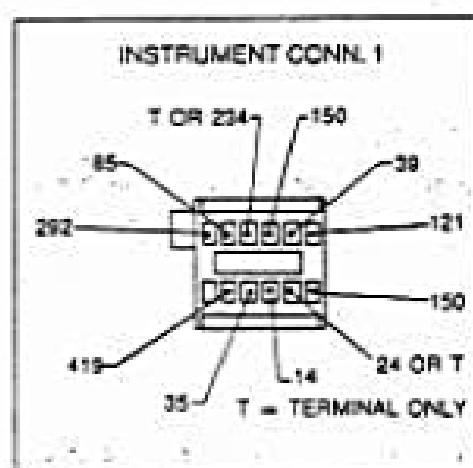

FIG 9.
6. Remove terminal 2 from connector 1 (circuit number 85) and terminal 5 from connector 3 (circuit number 389). Refer Figures 9 & 10 page 5.